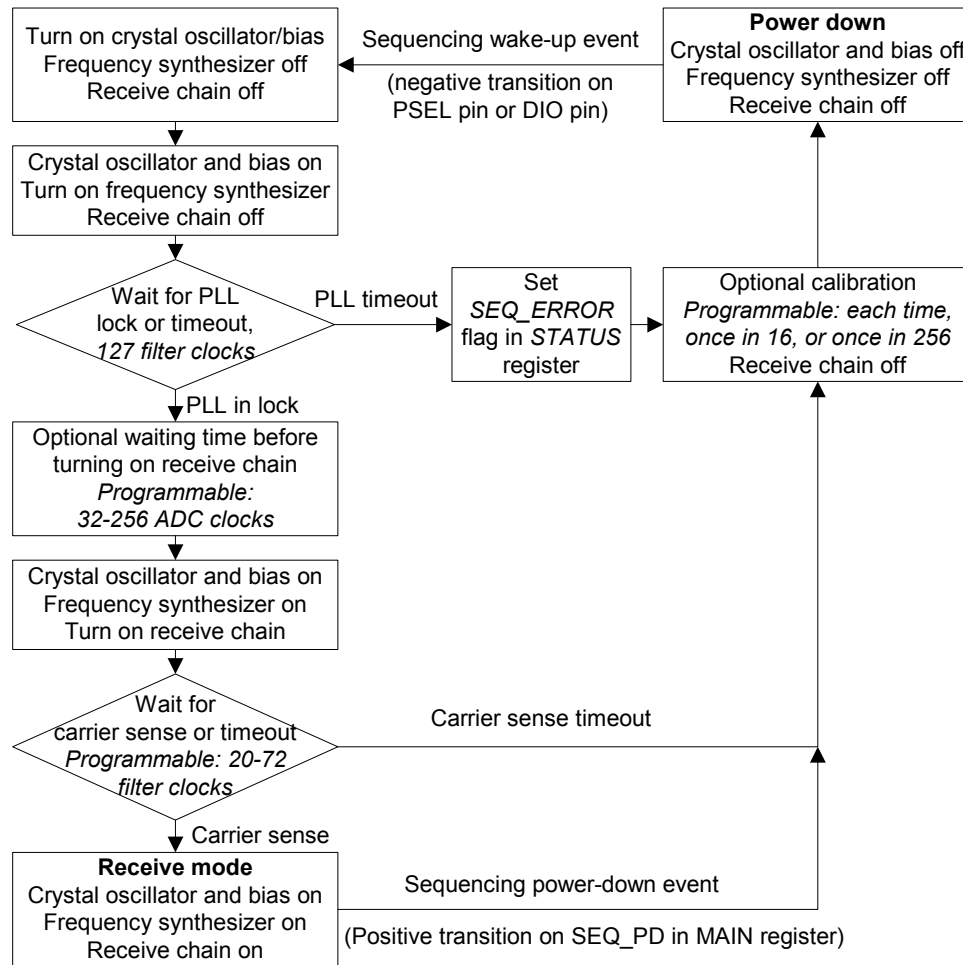

Figure 19. Automatic power-up sequencing flow chart
**CC1020** has a built-in automatic power-up sequencing state machine. By setting the **CC1020** into this mode, the receiver can be powered-up automatically by a wake-up signal and will then check for a carrier signal (carrier sense). If carrier sense is not detected, it returns to power-down mode. A flow chart for automatic power-up sequencing is shown in Figure 19.
#### Notes to Figure 19: